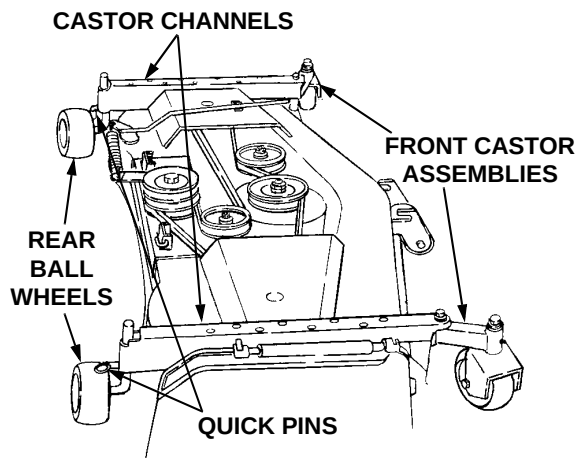

Figure 49
2. To ease sliding the deck out from under the tractor, reposition all four ball wheels as shown in Figure 49. To reposition the rear wheels; remove the quick pins, rotate the rear wheels 90°, and raise them to their uppermost position in the castor channels. Install the two quick pins in the rear holes of the castor channels to secure the rear wheels in this position. Temporarily remove the quick pins and rotate the front castor assemblies outward.